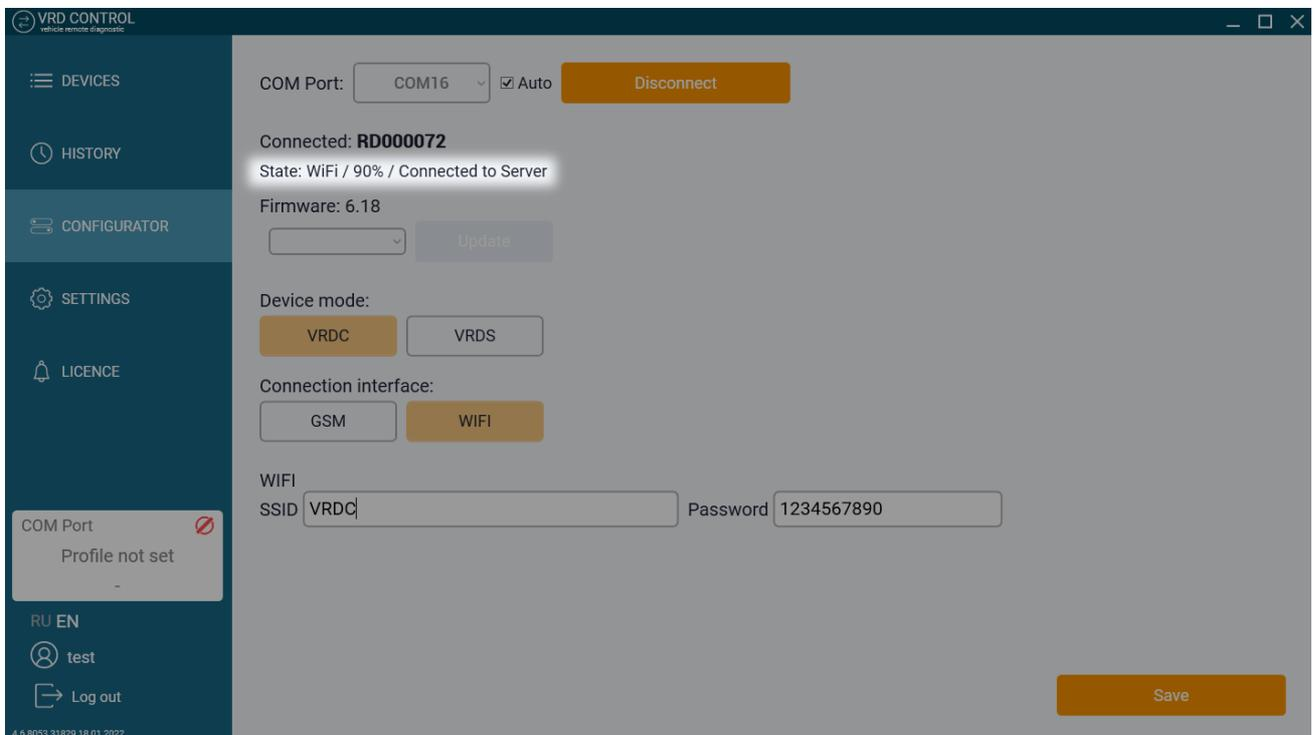

Figure 20
3. Find the desired device in the list of devices. The COM port number is shown in parentheses, next to the device name (see Figure 20)